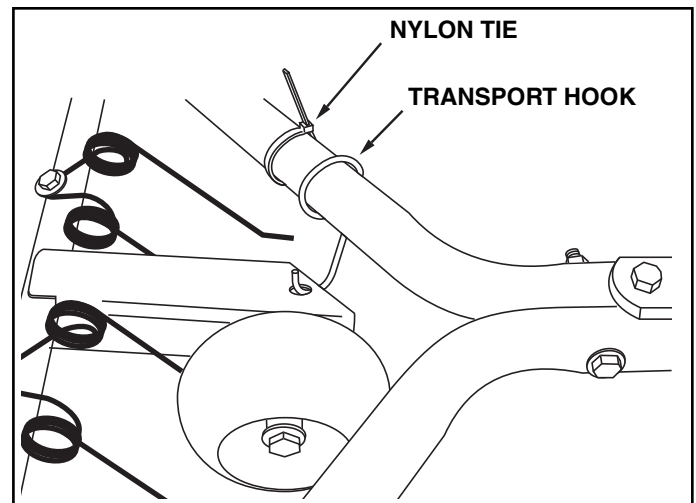

FIGURE 6
- Lift the front of the dethatcher and secure it in transport position using the transport hook. See figure 6.
- To keep the transport hook from sliding back along the hitch tube, you can fasten the supplied nylon tie around the hitch tube behind the transport hook. See figure 6.